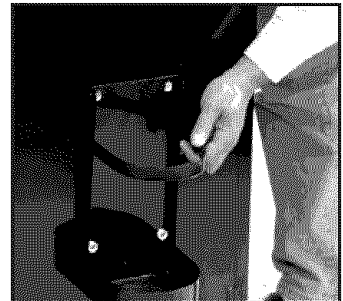

Fig. 3
- 4. Installation of CO₂ Cylinder Support:** Install the cylinder support onto the four studs located on the exterior back wall of the cabinet. (no tools required) Align the holes in the cylinder support with the studs and push down firmly. **See Fig. 3**